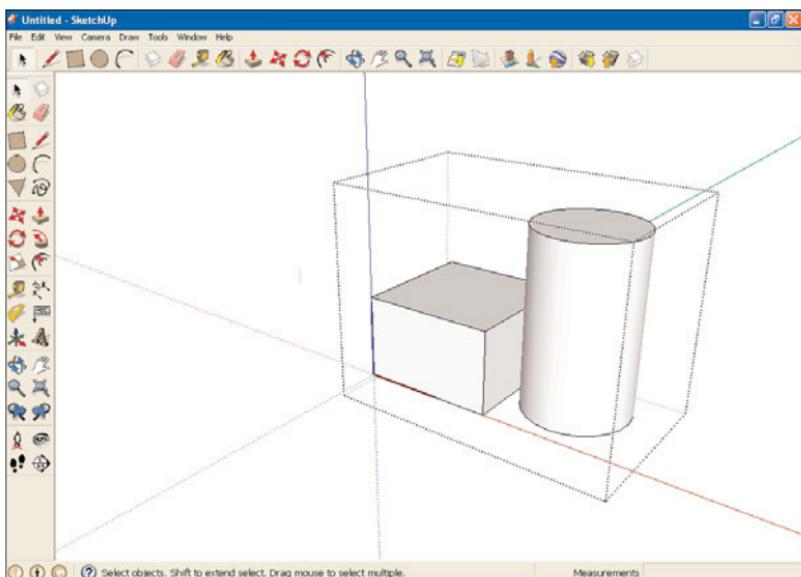

FIGURE 6.8 A component open for editing.
2. Select the **Edit Component** menu item. This will surround the component with a dotted box, as shown in Figure 6.8.